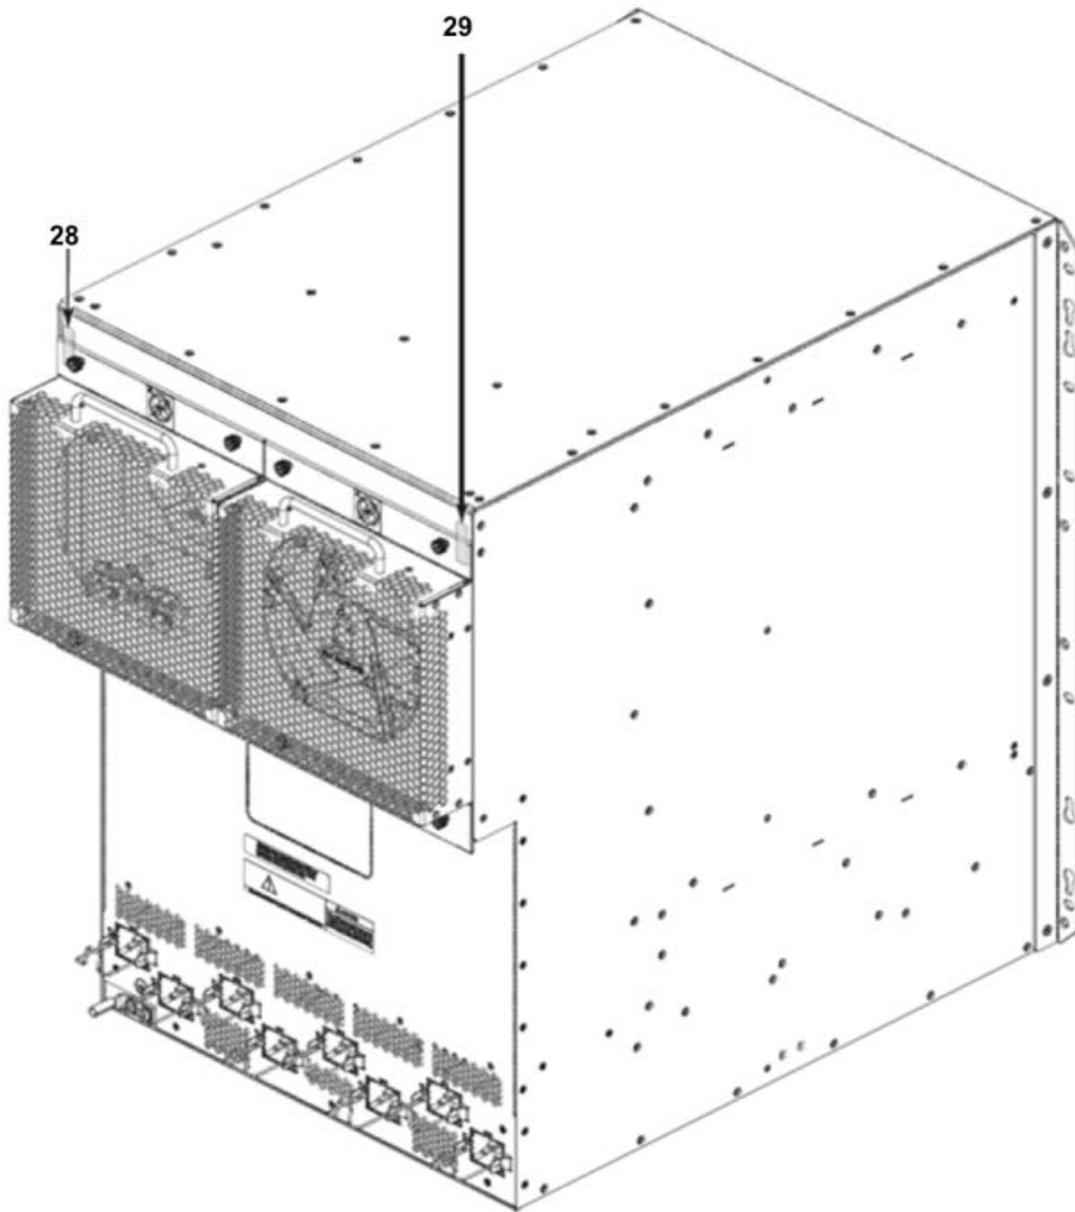

Figure 23 - Rear view of Brocade MLXe-16 device with security seals
- Rear: Two (2) seals are required to complete the physical security requirements. Affix one (1) seal at each designated location. Each seal is applied from the back panel of the chassis to the flange of each of the two fan FRUs. See Figure 23 for correct seal orientation and positioning.